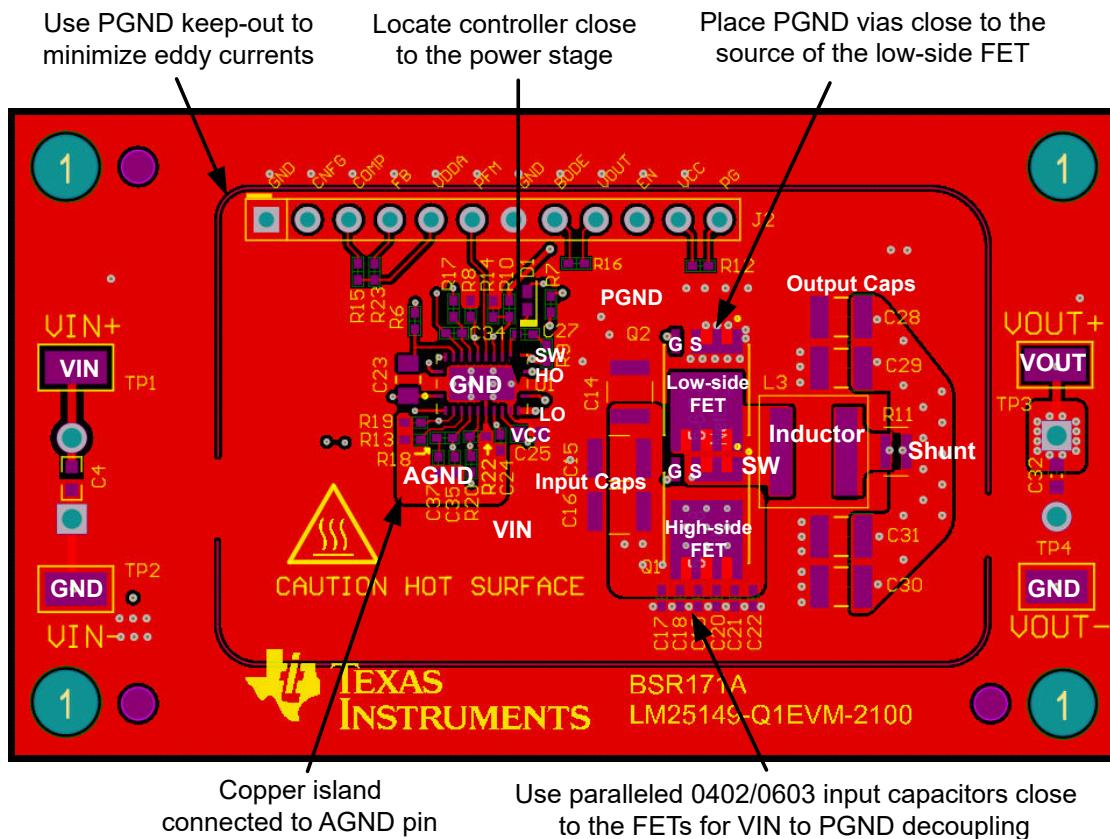

図 8-47. PCB Top Layer – High Density, Single-sided Design
図 8-47 shows a single-sided layout of a synchronous buck regulator with discrete power MOSFETs, Q1 and Q2, in SON 5-mm × 6-mm case size. The power stage is surrounded by a GND pad geometry to connect an EMI shield if needed. The design uses layer 2 of the PCB as a power-loop return path directly underneath the top layer to create a low-area switching power loop of approximately 2 mm². This loop area, and hence parasitic inductance, must be as small as possible to minimize EMI as well as switch-node voltage overshoot and ringing.
- Make the ground connections to the LM5148-Q1 controller as shown in 図 8-47. Create a power ground directly connected to all high-power components and an analog ground plane for sensitive analog components. The analog ground plane for AGND and power ground plane for PGND must be connected at a single point directly under the IC – at the die attach pad (DAP).